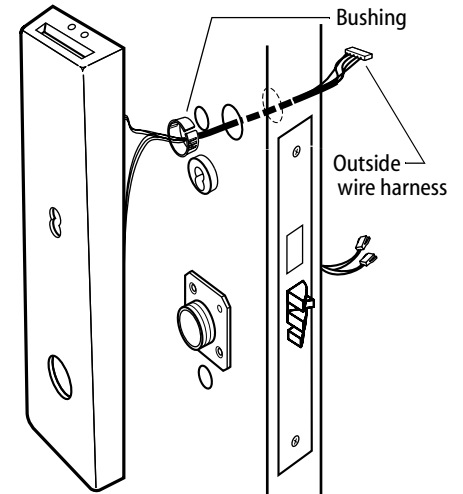
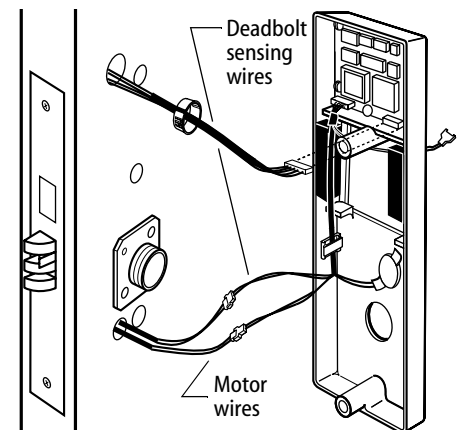

Figure 10
Figure 11
- 1 Insert the bushings into the wire hole, as shown in Figure 10 and Figure 11.
- 2 Feed the outside wire harness connector through the top wire hole, as shown in Figure 10.
- 4 From the inside of the door, connect the motor connector and the optional deadbolt sensing connector to their mating connectors from the circuit board, as shown in Figure 11.